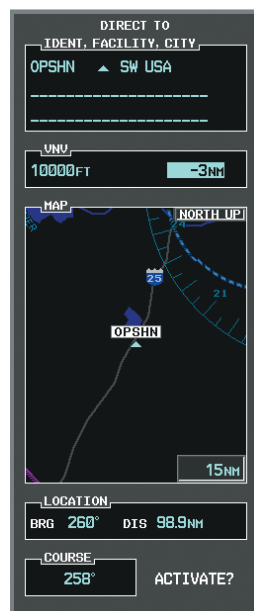

Figure 5-120 Enter VNV Offset Distance
f) Press the **ENT** Key. The cursor is now displayed in the VNV offset field as shown in Figure 5-120.